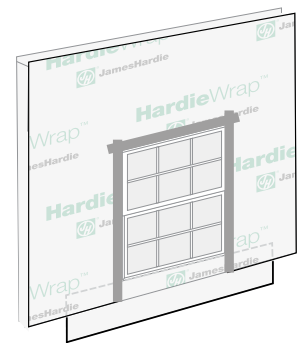

figure 14
- Tape the head seam as shown (fig.14).